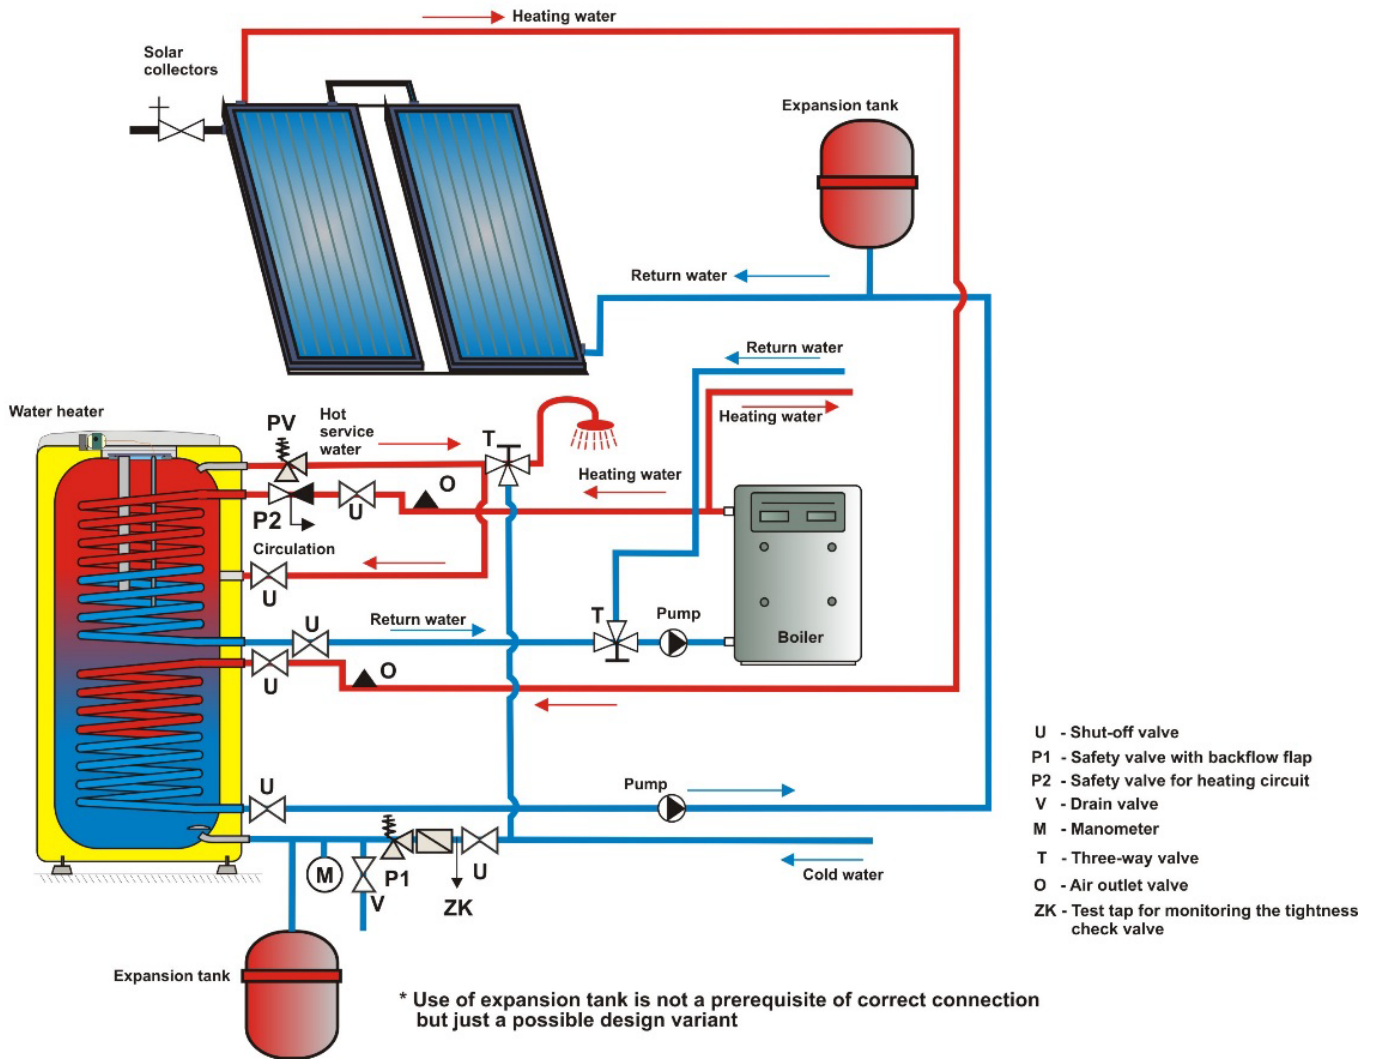

Figure 15
Connecting tanks to plumbing fixtures is shown in (Figure 12, Figure 13, Figure 14, Figure 15, Figure 16, Figure 17). For potential disconnection of the tank, utility water inlets and outlets must be provided with Js 3/4" screw coupling. If the hot utility water (HUW) distribution is equipped with circulation circuit, the reverse pipe is connected to the inlet identified as CIRCULATION. Types 100, 125, 160 NTR and 100, 125, 160 NTR / HV are equipped with a drain outlet. A "T" plumbing with a drain valve has to be mounted in type 200 and 250 NTR(R) on the HSW inlet. The tank shall be equipped with a safety valve to ensure the operation. The safety valve is mounted on the cold water inlet identified with a blue ring. We recommend that the hot water distribution from the heater was as short as possible to minimize heat losses. Tanks must be provided with a discharge valve mounted on the cold service water inlet into the heater for potential disassembly or repair.